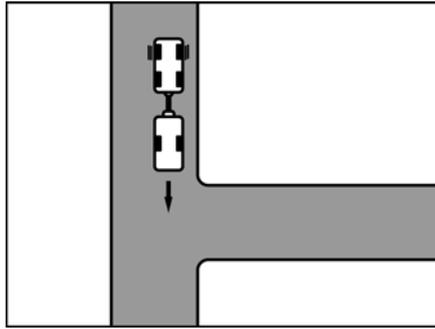

Fig. 9 Approach
- Drive up to the entrance until the rear of the caravan is roughly level with the entrance (Fig. 9).